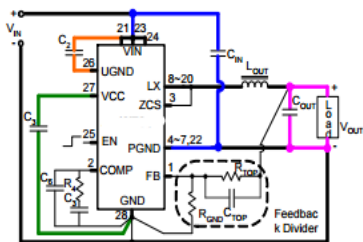

Figure 2. Current Path Diagram
In high power switching regulator, a correct layout is important to ensure proper operation of the regulator. In general, interconnecting impedance should be minimized by using short, wide printed circuit traces. Signal and power grounds are to be kept separating and finally combined using ground plane construction or single point grounding. Figure 2 illustrates the layout, with bold lines indicating high current paths. Components along the bold lines should be placed close together. The following is a checklist for your layout:
2. In Figure 2, the loops with the same color bold lines conduct high slew rate current. These interconnecting impedances should be minimized by using wide, short printed circuit traces.